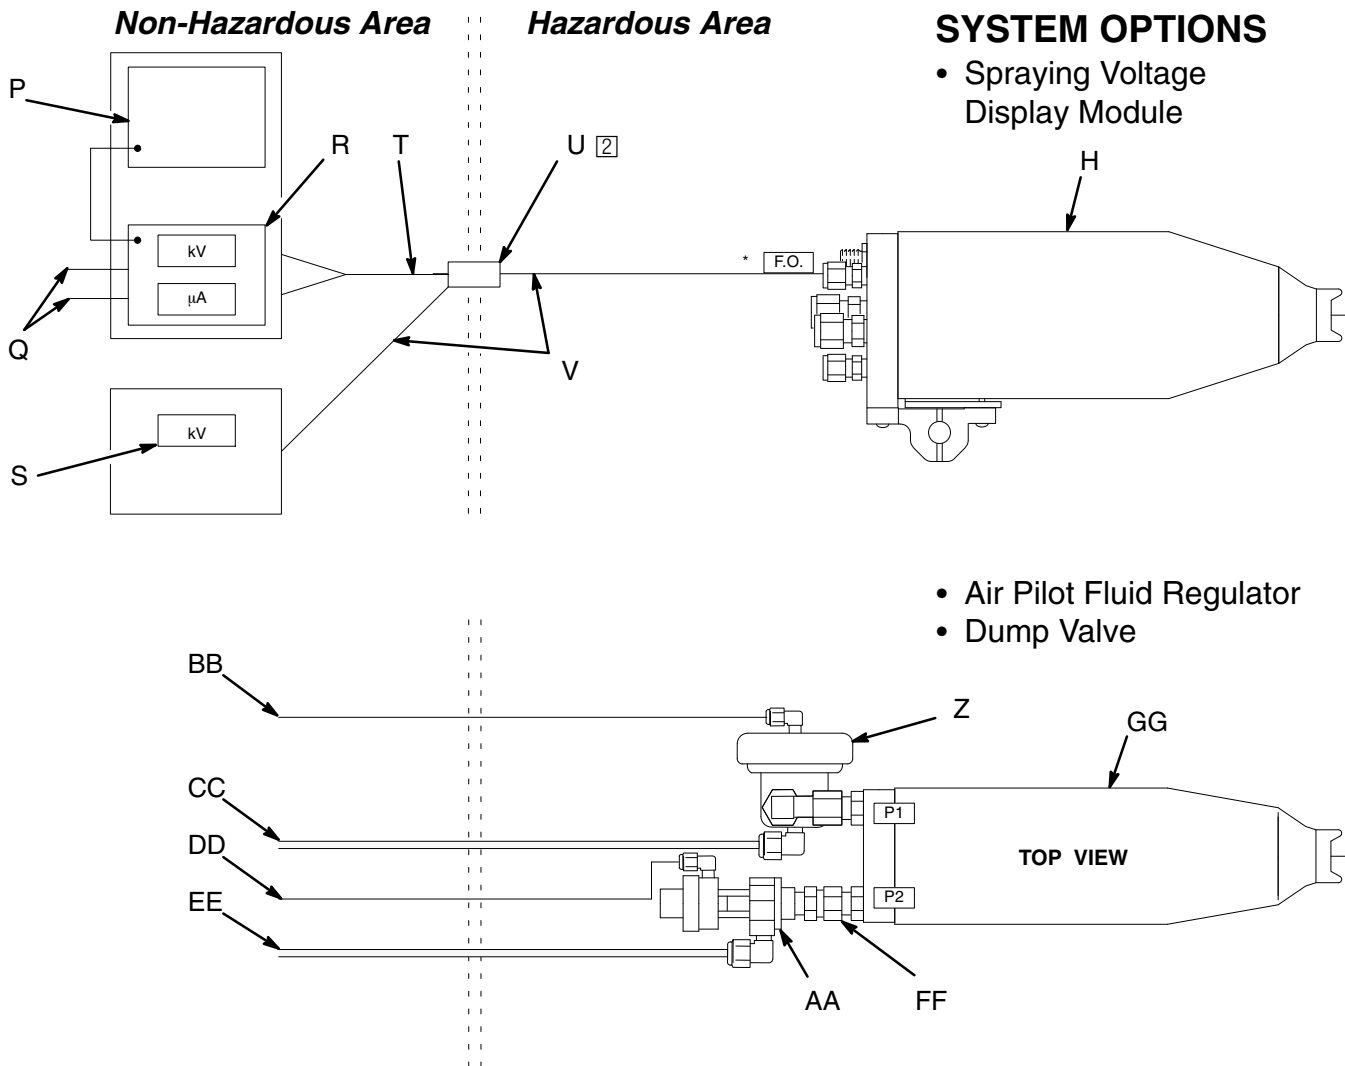

Fig. 2
- An optional fiber optic readout system can be installed to monitor the gun's spraying voltage. A fiber optic cable (V) connected to the gun manifold carries the signal from the gun to a remote ES (electrostatic) display module. See Fig. 2, page 8. An ES Display Module (R), P/N 224-117, is available and will display the gun's spraying voltage and current. A battery operated ES Display Module (S), P/N 189-762, is also available; it displays the gun's spraying voltage only.